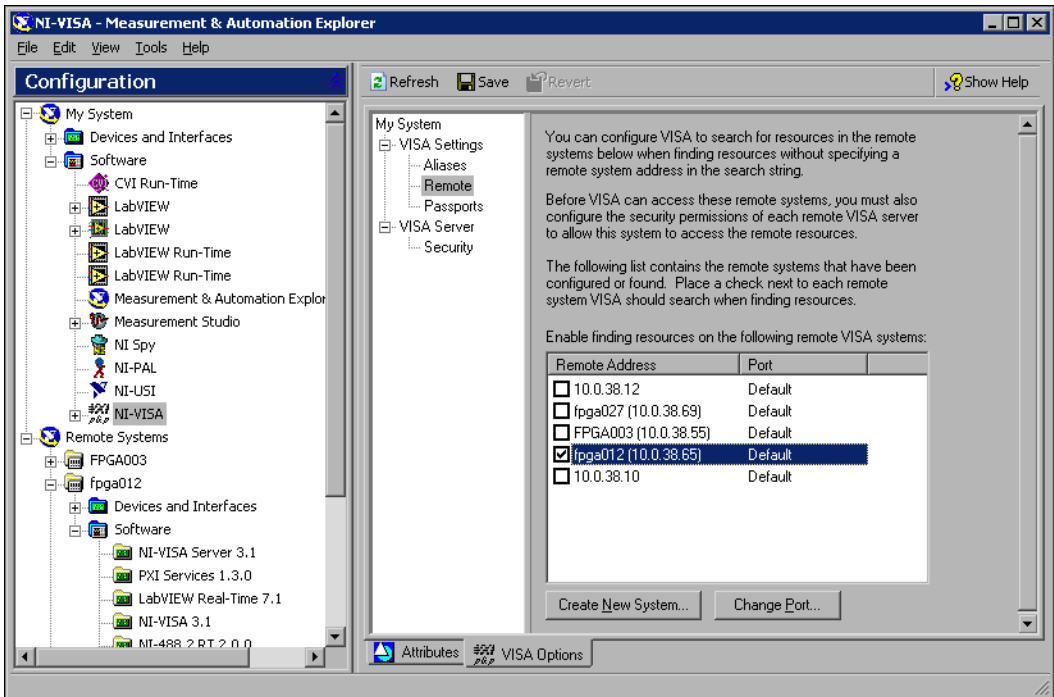

Figure 3. Enabling Remote Finding on Specific Remote Systems
1. If you are currently configuring access permissions for a remote system, click the **VISA Options >> Remote** button to open the **VISA Options** page for the local VISA settings. Otherwise, select **Tools»NI-VISA»VISA Options** to open the **VISA Options** page and select **VISA Settings»Remote**, as shown in Figure 3.